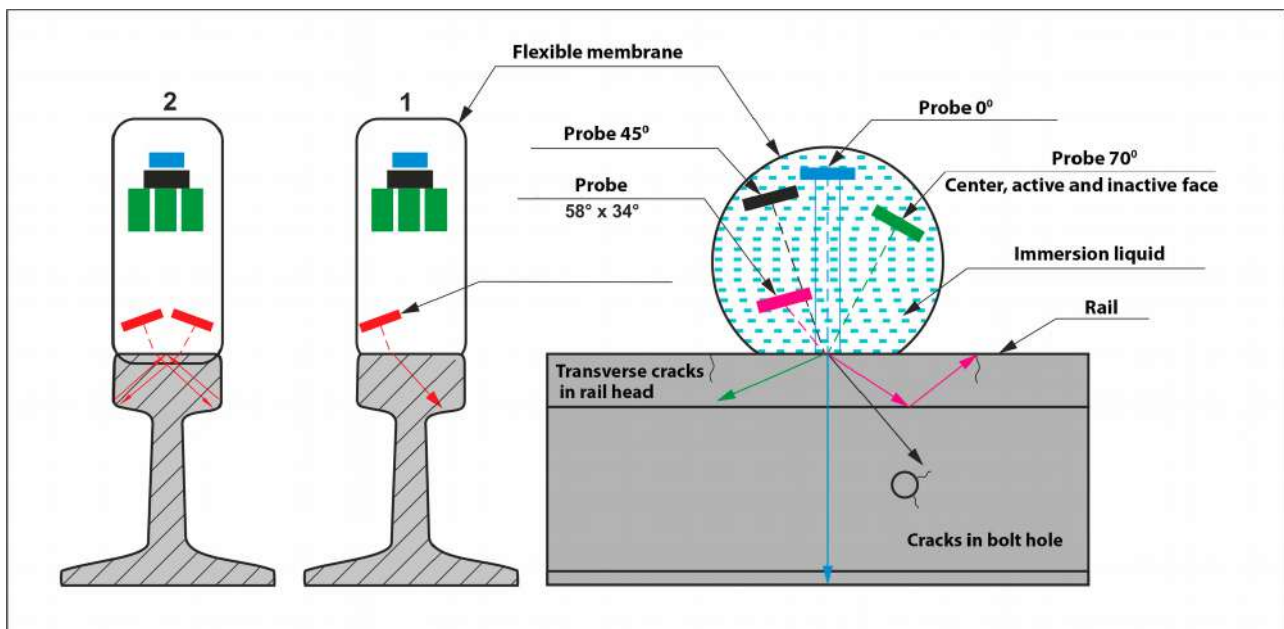

Figure 4 – IPU ultrasonic test scheme of a rail
- **3 (Three) 70° probes (ref. Fig. 4, 5)** are used for testing of the central and side (active and inactive) faces of the rail head for the presence of transverse cracks. The probes scan rail head in two directions, along the path and back. This allows to detect transverse cracks of different orientation relative to the vertical plane, including the ones developing beneath the horizontal delaminations at a distance not more than 50 mm from the beginning of delamination in the sounding test direction of the PET.
- **45° probe (ref. Fig. 4, 5)** are used for testing of the whole cross-section of the rail in the rail web projection including the bolt holes. The testing is performed by the echo technique. Sonic test of the rail is done in two directions – along the path and back.
- **0° probe (ref. Fig. 4, 5)** are used for testing of the whole cross-section of the rail in the rail web projection by the echo technique and the echo-shadow method. Echo-shadow technique is used for the defects detection according to the back wall signal attenuation, and allows to detect the flaws which are not detected by the echo technique, and the cracks in the bolt holes. Echo-shadow technique also allows to control the acoustic contact fault, and centering of the search system.
- **2 (Two) 58°x34° probes (ref. Fig. 4, 5)** are used for testing of the active, inactive rail faces, and its central part. The rail testing is performed by the echo-technique with a straight once reflected beam, and by the echo-shadow method («diamond» scheme), with the radiation direction along the path and back. For that, the single element immersion angle-beam of $(55 \div 60)^\circ$ (turned for $(32 \div 36)^\circ$ relative to the longitudinal axis in the active and inactive faces PETs are used, Figure 4). This enables to detect transverse defects of different orientation relative to the vertical plane.